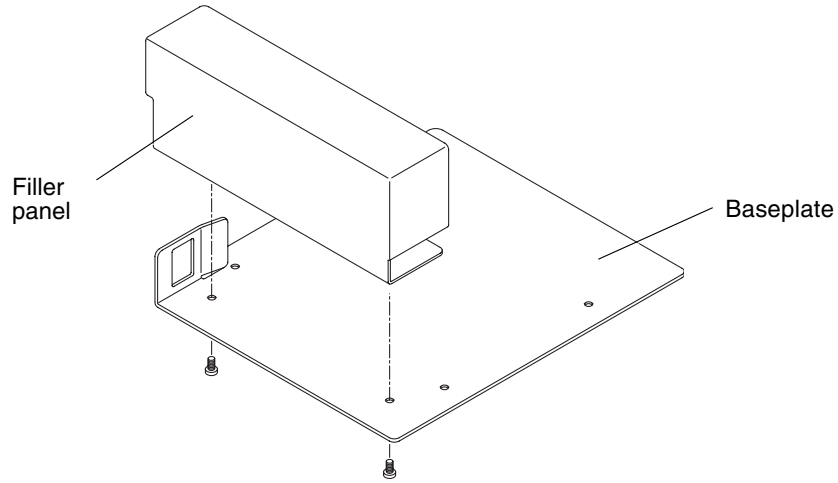

FIGURE 6-12 Dismantling the Tape Drive Filler Panel
5. Remove the two countersunk screws that secure the tape drive filler panel to the baseplate (FIGURE 6-12). Remove the tape drive filler panel.